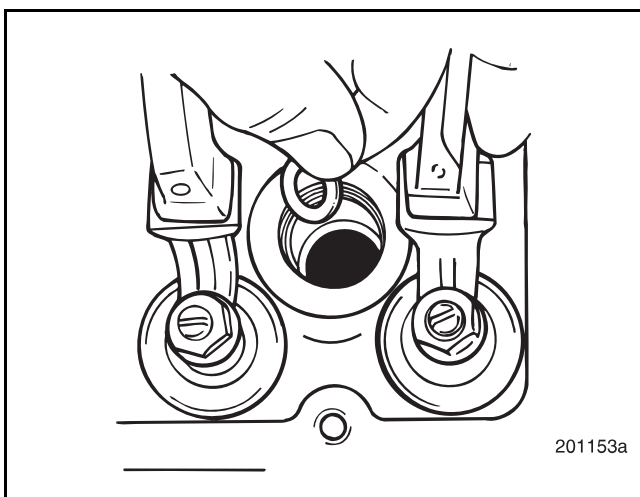

Figure 6-61 — Nozzle Holder Gasket Installation
1. Insert a nozzle holder gasket in the bottom of the nozzle holder hole. Refer to Figure 6-61. Make sure the washer-type gasket is lying flat in the bottom of the nozzle holder bore.